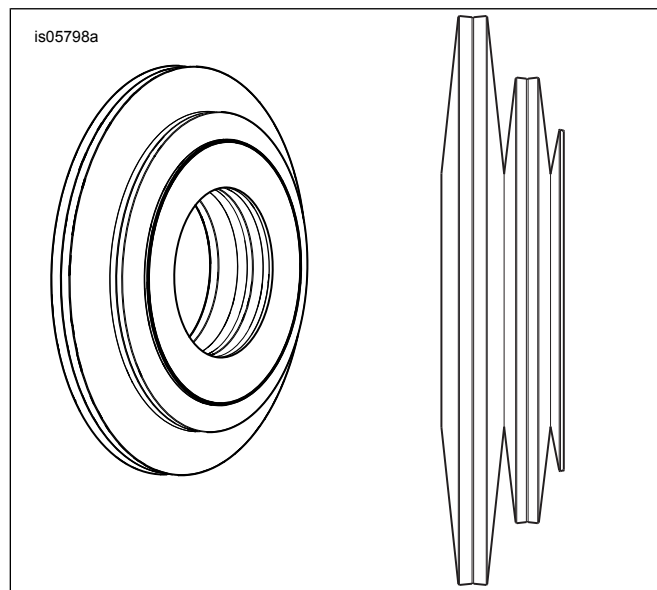

Figure 5. Spring Pack Sub-Assembly
10. The outer diameters of the springs must contact each other as shown in Figure 5.
11. Install the sliding cam (5) with the flat face contacting the small disc spring. Lubricate the sliding cam ramps with primary chaincase oil.